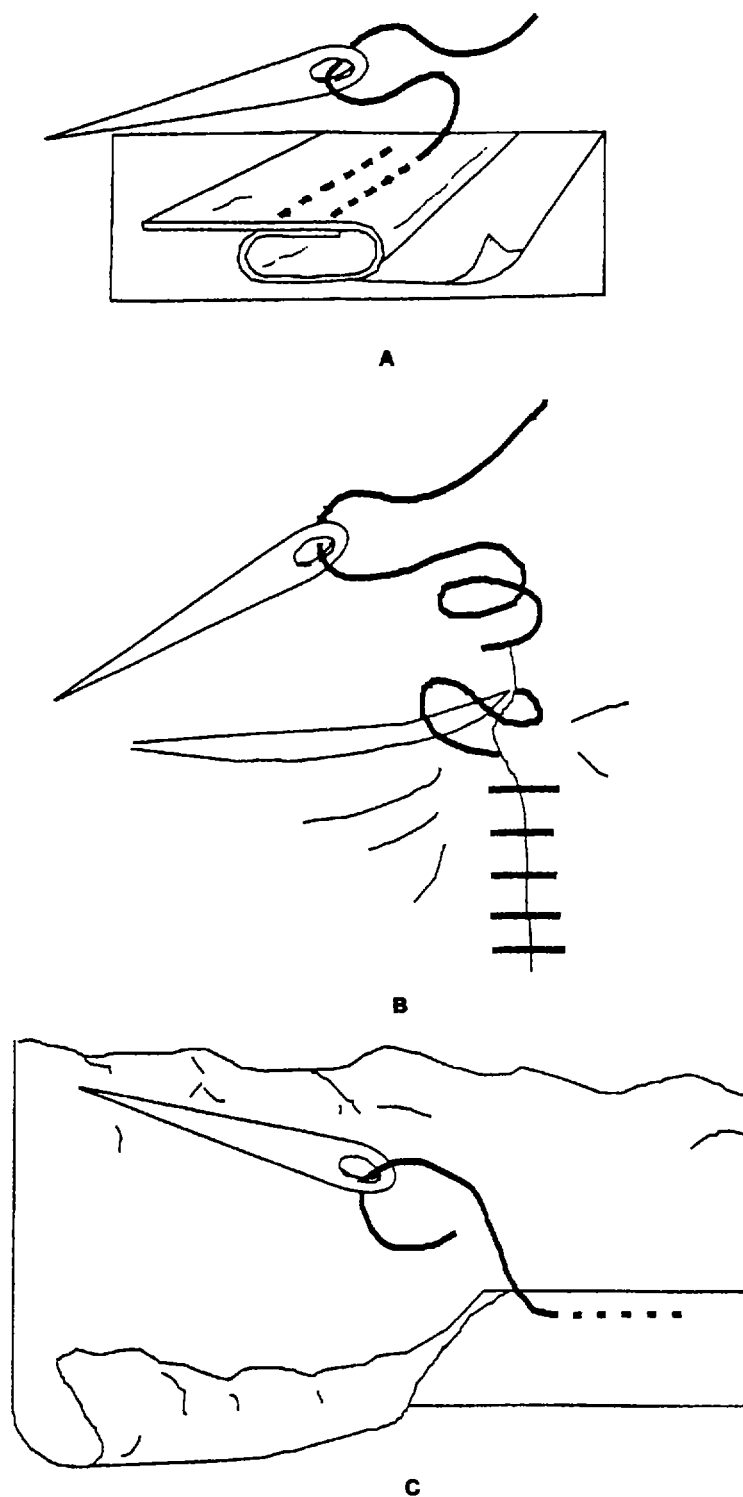

Figure 23-2. Two Piece Chemical Protective Underwear, Repair
- (1) Preliminary Examination. Remove all dirt, mud, dust, spots, stains and other foreign matter with a brush before examining the garment. Seams will be tested by firmly grasping the item with both hands and pulling at right angles to the seams. Areas to be repaired shall be marked by means of tape or chalk or other removable means. Nonspecific and personal marks shall be erased or obliterated.
- (2) Rips and tears. (Figure 23-2)
- (a) To mend a ripped seam, overlap the two edges and hand sew or 301 machine stitch with straight and small stitches. (Figure 23-2, A).
- (b) To repair a tear, place the two edges together and neatly hand sew using a whip stitch. (Figure 23-2, B).
- (c) To mend a frayed edge, turn the frayed edge under and hand sew or 301 machine stitch this turned edge. (Figure 23-2, C).
- (3) Field Expedient Repair or Temporary Measures.